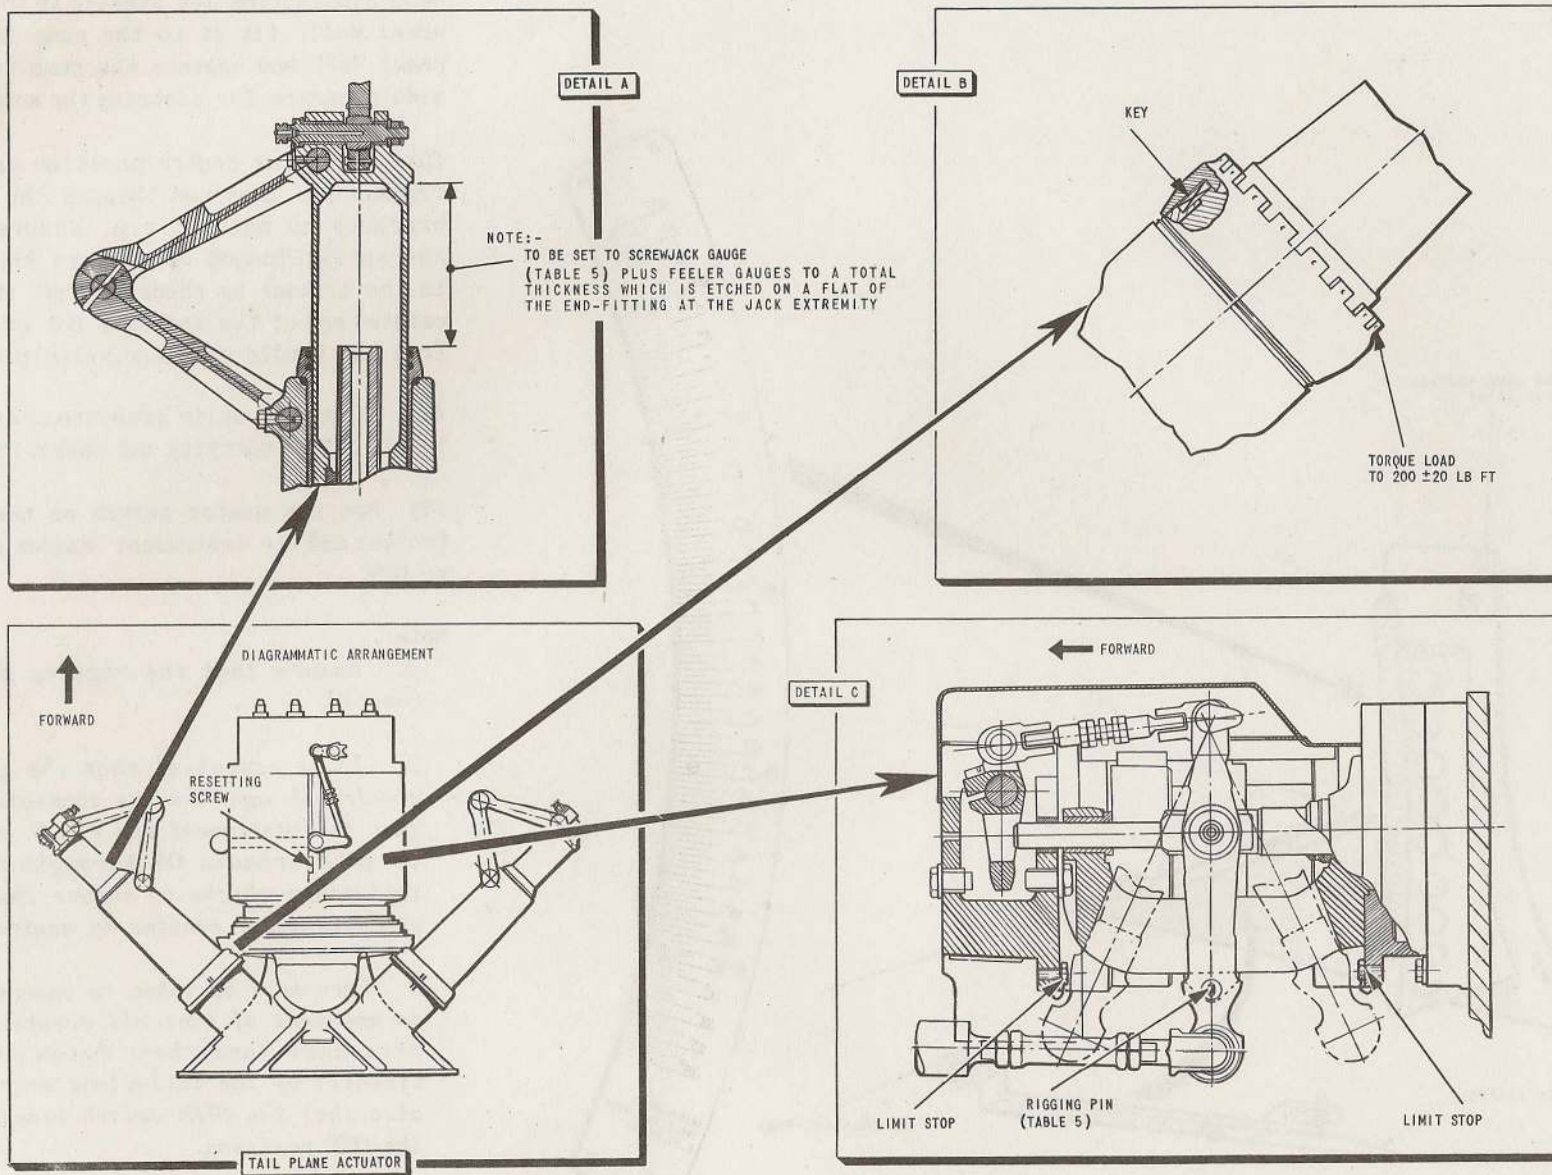

FIG.7. P.F.C.U. SETTINGS
Assembly (fig. 7)
(2) Using the spline key rotate the shaft to set the jack in neutral position to the dimension given in fig.7, detail A. Check with the screwjack setting gauge.
(3) Set the starboard jack in neutral position to the same dimension. Assemble to the gearbox, fitting the key in the keyways formed in the jack body and the bevel gear housing; if the bevel gears do not mesh:-
(10) Using the spline key, wind the tail planes until the port screwjack is extended to the dimensions given in fig.7, detail A.
(11) Before assembling the torque converter refer to A.P.105D-0405-16AC for the method of establishing the neutral setting.
(12) Install the torque converter assembly from above, taking care that the spline is not disturbed by more than half a tooth on mating, and that hydraulic pipes are not fouled or damaged. Mate the splined shafts, bolt the unit to the frame, and wire-lock the bolt heads.
(13) Connect No.1 and No.2 controls hydraulic couplings to the p.f.c.u. and services hydraulic couplings to the autostabilizer actuator. Refit the fairleads on the debris guard.
(14) Set the control column and the system levers in neutral position (*Table 1, detail 1*).
(15) Connect the control rod to the input lever of the torque converter assembly, adjusting, if necessary, on the turnbarrel adjuster on the rod. Remove the rigging pin from the input lever and the setting pin from the autostabilizer linkage.